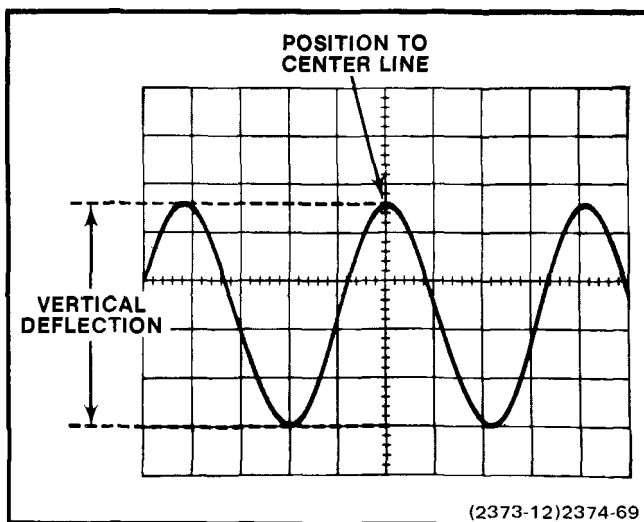

Figure 2-12. Measuring peak-to-peak voltage of a waveform.
5. Turn the vertical POSITION control so the lower portion of the waveform coincides with one of the graticule lines below the center horizontal line and the top of the waveform is in the viewing area. Use the horizontal POSITION control to move one of the upper peaks in alignment with the center vertical graticule line (see Figure 2-12).
EXAMPLE: Assume a peak-to-peak vertical deflection of 4.6 divisions (see Figure 2-12) and a VOLTS/DIV switch setting of 5. Using the formula (read the appropriate VOLTS/DIV knob skirt window for the probe or cable in use):